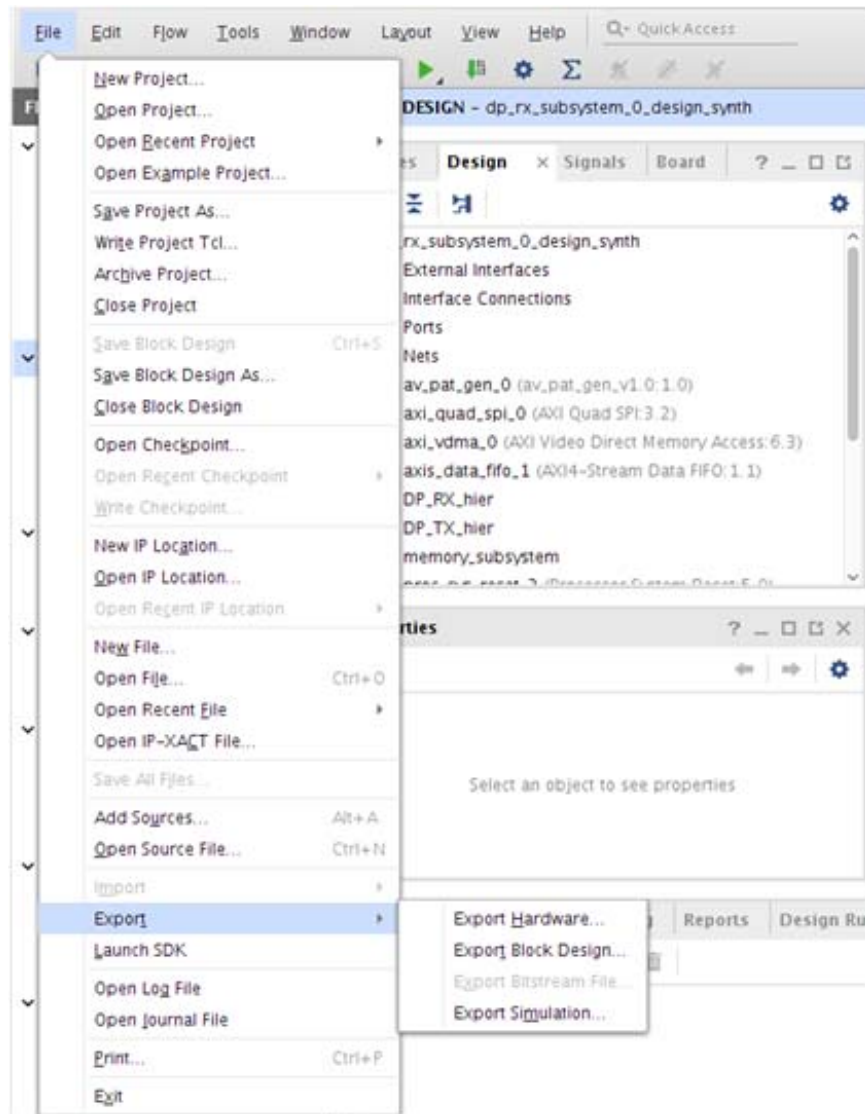

Figure 5-10: Export Hardware for SDK Example Design Flow
11. Export the hardware to SDK. Click **File > Export > Export Hardware** (Figure 5-10).